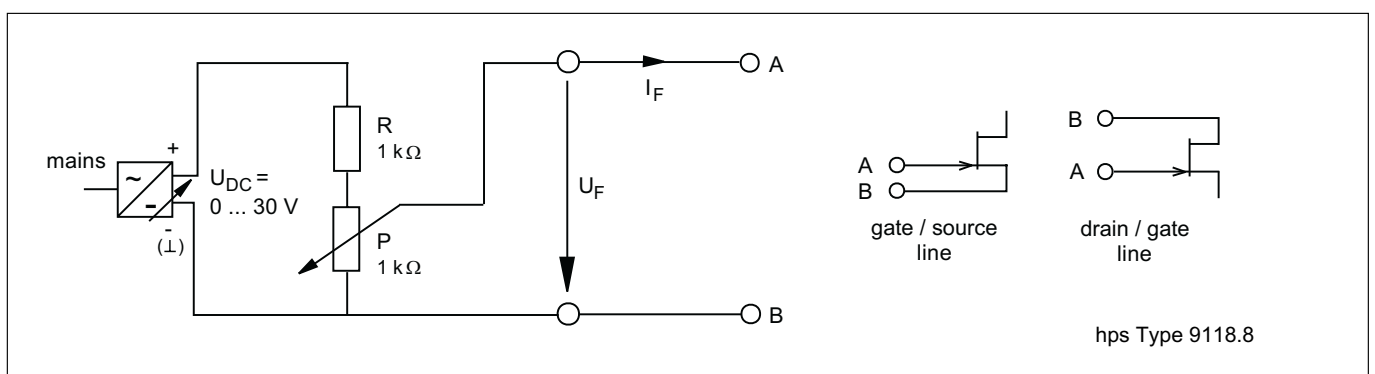

Fig. 5.2.2.1
- Plot a graph showing the on-state characteristics of the p-n junctions $I_F = f(U_F)$ on the diagram (Fig. 5.2.2.2).
- Set up the circuit according to Fig. 5.2.2.1 (with gate/source line). Set the voltages U_F consecutively according to Table 5.2.2.1. Measure the corresponding currents I_F with the multimeter and enter their values in Table 5.2.2.1.